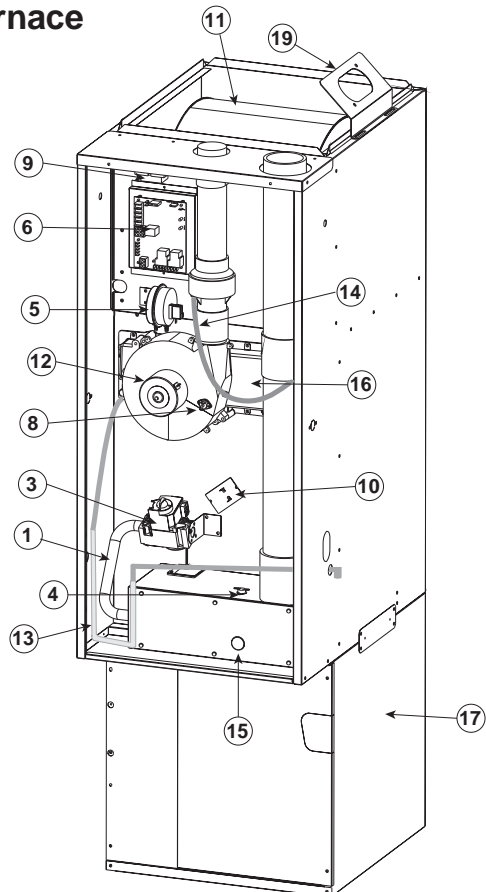

Figure 30. Location of Major Components
If the furnace locks out after 5 attempts for ignition, it will try again every hour if a call for heat remains. If the inducer and circulating air blowers are operating, and items 1 through 8 have been checked, press the red reset button on the vent safety switch. (See Figure 30.) If the furnace operates after depressing the reset button, contact a qualified service technician to identify and repair the problem.